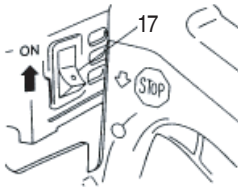

Fig. 13
2. Set ignition switch (17) to ON position. (Fig. 13)